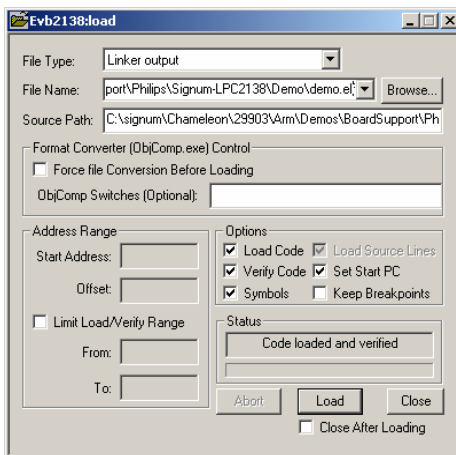

FIGURE 24 Load File dialog box
5. The Chameleon installation includes a small demo program for the Philips LPC238 devices. The program is written in C and performs simple functions and LED blinking. To load the demo program (Figure 24), select File | Load from the main menu and select the demo.elf file located in the folder: